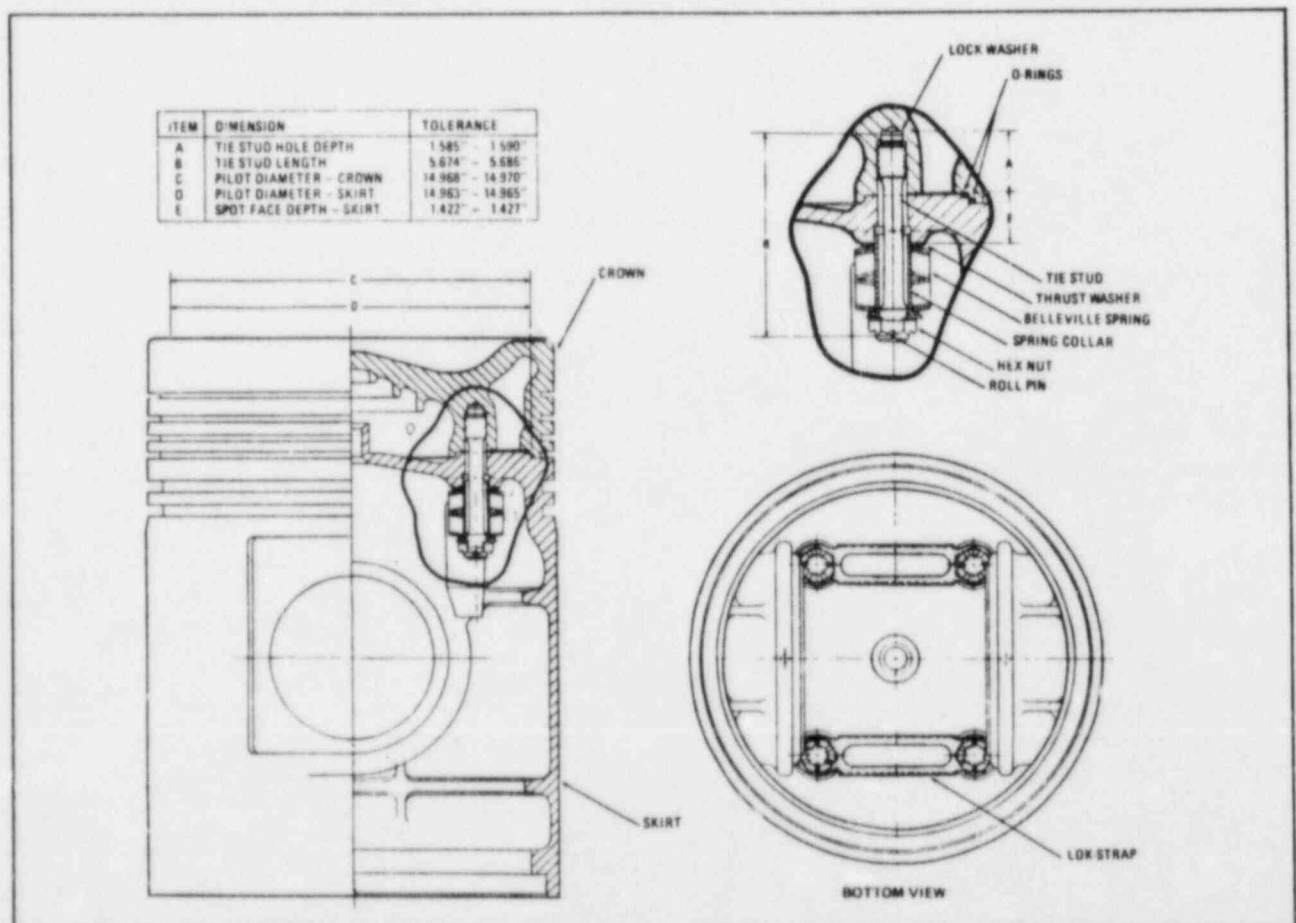

Figure 6-C-7. Piston Assembly
- (1) Measure depth of crown stud holes. Measure from raised inner ring towards the center of the crown, not from the 0.007" deep relieved area. Must be within tolerances (A, Fig. 6-C-7).
- (2) Install a heavy spring lock washer in each of the four tie stud holes. Use Enterprise Part No. GA-002-091 washer (0.388" I.D., 0.691" O.D., 0.115" thick). Do not substitute.
- (3) Measure length of tie stud from lock washer end to centerline of roll pin hole (B, Fig. 6-C-7). Acceptable tie studs must be within tolerances.
- (4) Lubricate threads of tie studs (end opposite roll pin hole) with a 50-50 mixture of graphite and engine oil, and thread studs into holes in crown. Torque to 250 ft-lb.
- (5) Take a micrometer measurement of crown and skirt pilots (C, D, Fig. 6-C-7). Must be within tolerances to ensure ease of assembly without damage to O-rings.
- (6) Measure skirt spot face depth (E, Fig. 6-C-7). Should be within stated tolerances.
- (7) Install O-rings on skirt. Do not twist rings during installation. Use no adhesive, grease or solvent on rings. Mineral oil may be used to ease entry of O-rings into crown.
- (8) Assemble crown to skirt. Observe that there is a dowel pin in the crown which must enter the dowel hole in the skirt. Check O-rings for proper positioning.
- (9) Clean each Belleville spring and the spring collars by dipping them in solvent then thoroughly drying. Dip all springs and collars into a 50-50 mixture of graphite and engine oil, making sure washer faces are completely wetted.
- (10) Install thrust washer on each tie stud, then install exactly 13 Belleville springs on each stud, concave side towards skirt. Install 13 more Belleville springs on studs, concave side towards crown.
- (11) Install spring collars on each tie stud, then install two lok-straps as shown in Figure 6-C-7.
- (12) Apply Locktite to threads of studs, and assemble hex nuts to studs and tighten finger tight. Do not lubricate threads.
- (13) Align each washer stack with fingers so outer edge of washer stack is even. Torque each nut to 95 ft-lb, then back off three-quarter turn.
- (14) Retorque each nut to 85 ft-lb and check alignment of tie stud roll pin holes with nut slots. Increase torque as necessary to align roll pin holes with closest nut slot. Do not exceed 100 ft-lb.
- (15) Check for proper assembly. Roll pin hole in stud should be even with, or a maximum of 1/32" above base of nut slot. If within this tolerance, clean roll pin hole and install roll pin, using loktite. If not within tolerance, check assembly of parts for proper size and correct number of springs each way.
- (16) Bend lok-strap tabs up securely against side of nuts.